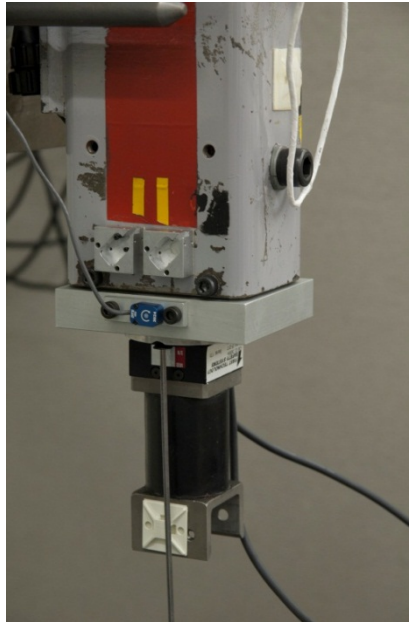

Figure 158. Mount lumbar load cell to pendulum
- Tape the ARS wiring to the headform, allowing sufficient slack. Figure 158 shows the final setup for the Q3s lumbar spine lateral qualification tests.